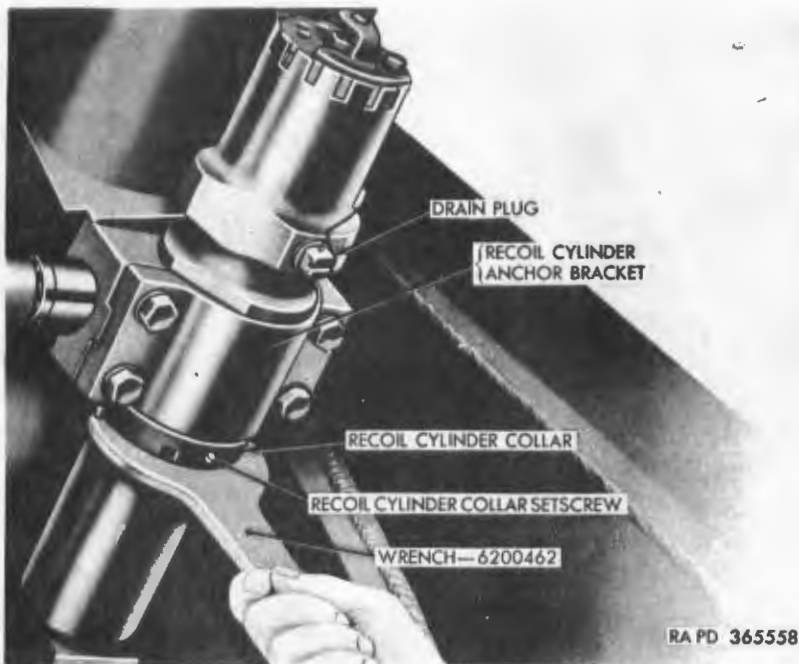

Figure 289. Backing off recoil cylinder collar.
- (1) Manually elevate gun (par. 61b(2)) to approximately 85°
- (2) Loosen recoil cylinder collar setscrew (fig. 289).
- (3) Back off recoil cylinder collar from recoil cylinder anchor bracket, using recoil cylinder wrench 6200462 (fig. 289). Pry breech casing dust cover forward and remove from breech casing.
- (4) Remove four hex-head bolts and internal-teeth lock-washers and remove recoil cylinder anchor bracket (fig. 289) while holding up recoil cylinder to prevent it from falling. Lower recoil cylinder until it is approximately at right angles to gun, thereby disengaging recoil cylinder piston rod retaining pin from lugs of breech ring and remove recoil cylinder (fig. 290).
- (4) *Draining recoil cylinder.*
- (a) Drain recoil oil by loosening recoil cylinder control rod and removing the filler plug (par. 63c). Remove drain plug (fig. 289) after placing a clean dry pail, or other adequate container in position.
- (b) Fill recoil cylinder *d*(1) above.
- (5) *Care of recoil oil.*
(2) Raise recoil cylinder and secure in place with recoil cylinder anchor bracket (fig. 289) by installing four $\frac{1}{2}$ x $1\frac{3}{4}$ hex-head bolts and $\frac{1}{2}$ -inch internal-teeth lock-washers.
(3) Install breech casing dust cover.
(4) Install recoil cylinder collar (fig. 289) until it bears against side of bracket, using wrench 6200462.
(5) Lock collar with $\frac{1}{4}$ x $\frac{1}{4}$ recoil cylinder collar setscrew (fig. 289) after placing the $1\frac{1}{6}$ OD x $\frac{3}{2}$ copper disk between the setscrew and thread on recoil cylinder.